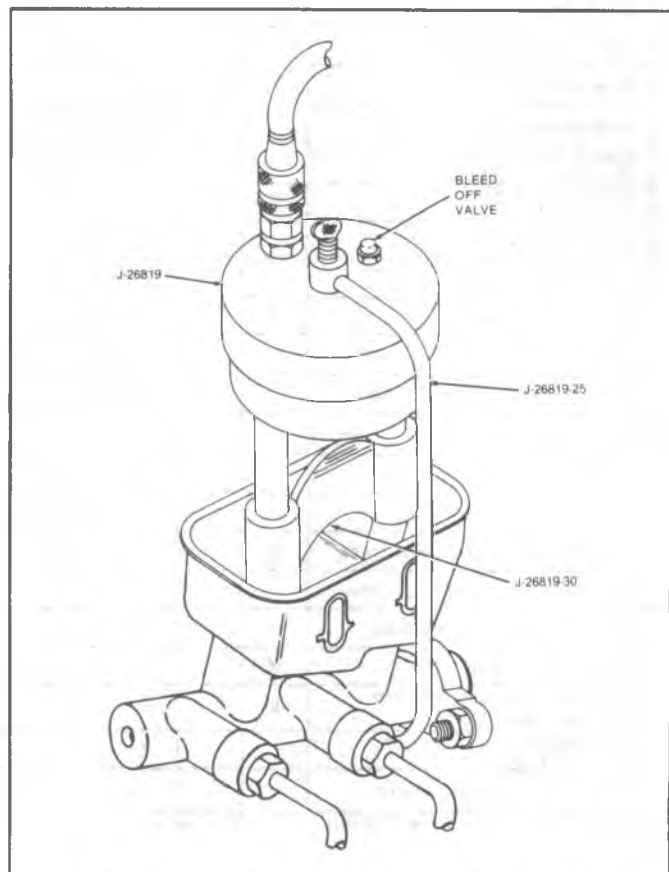

Fig. 5-4--Pressure Bleeding (CK Models JB1 thru JB6)
1. Install the correct pressure bleeding adapter to the master cylinder. Brake Systems JB1 through JB6 gas engine vehicles require adapter J-26819, extension J-26819-30 and clamp J-26819-25. All other systems use J-23518. Refer to Fig. 5-4, special tool illustration and brake system description chart.
**NOTICE:** It is very important that the correct master cylinder bleeder adapter be used to avoid possible damage to the master cylinder reservoir (fig. 5-4).